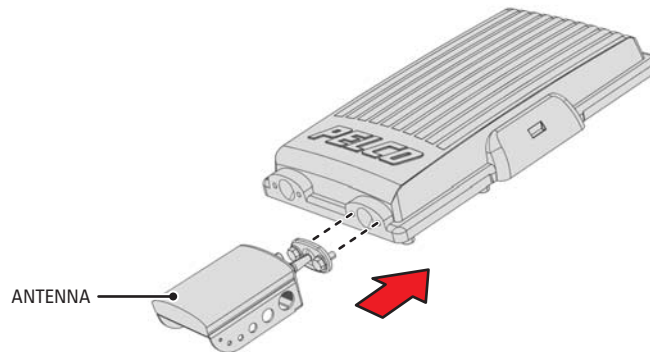

Figure 7. Attaching the Integrated Antenna
- a. Attach the integrated antenna to the EW5001 (refer to Figure 7). Do not tighten the bolts until you align the integrated antenna (refer to *Antenna Alignment* on page 24).